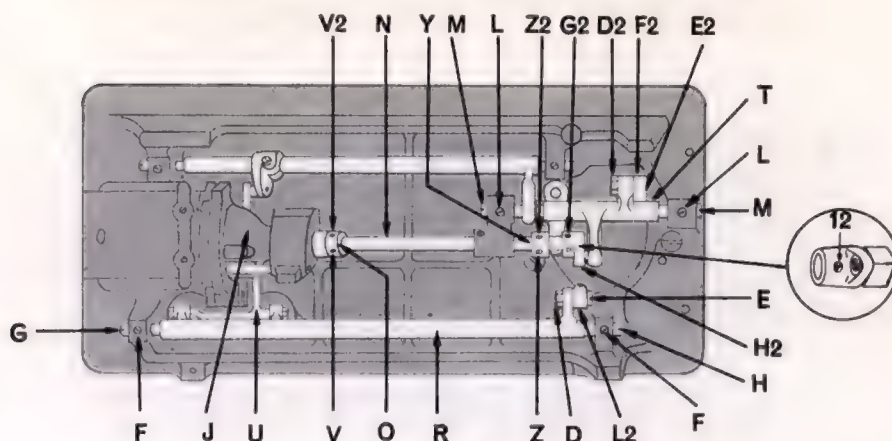

Fig. 26.
#### REMOVAL: (See Fig. 26)
4. Turn hand wheel over toward you until oscillating shaft crank set screw 12 appears (see inset, Fig. 26).
#### **REMOVAL: (See Fig. 26)**
#### **PREMOVAL: (See Fig. 26)**